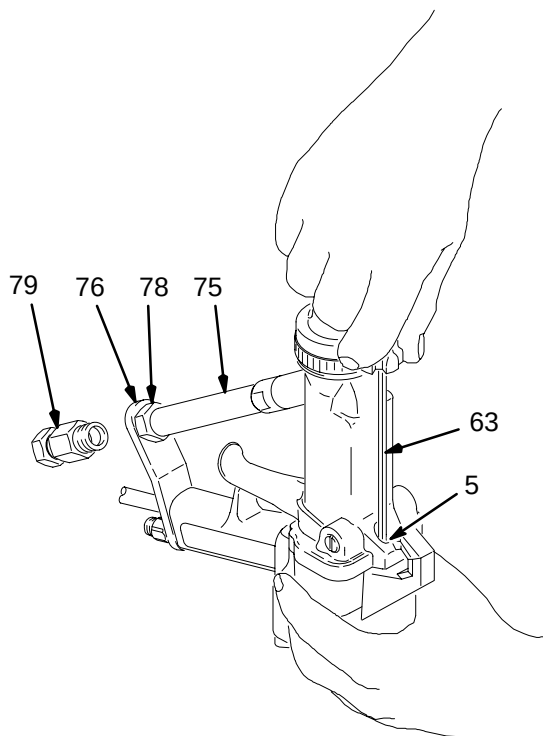

Fig. 25
2. Loosen the nut (78) from the ferrule housing (79). Pull the ferrule housing through the gun bracket (76). See Fig. 25.